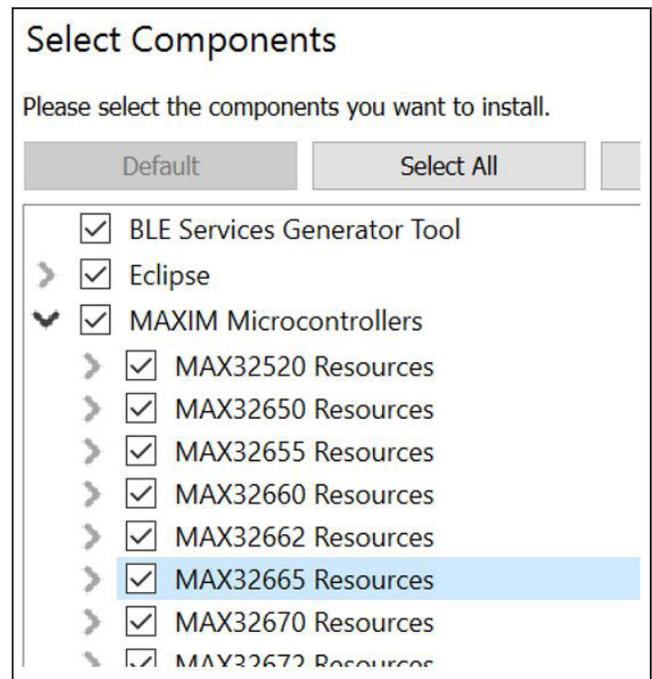

Figure 3. Select Components Window
**Note:** When selecting your target microcontroller, be aware that only the first part number in the sequence is shown (see Figure 3).